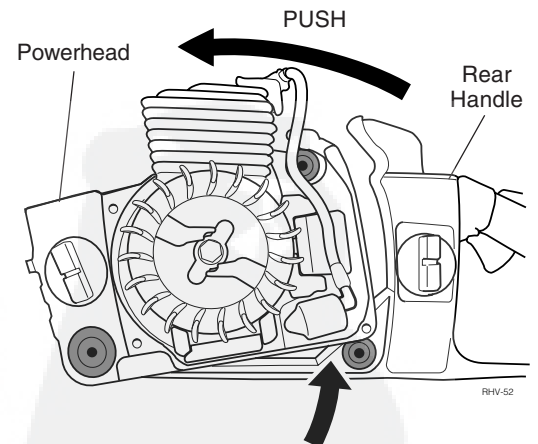
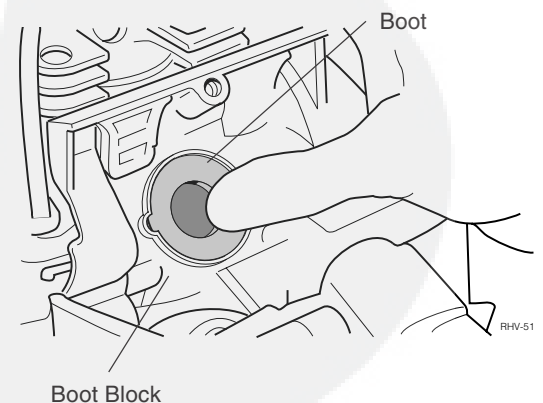

Figure 12.4 Removing the Powerhead
Figure 12.5 Pushing the Boot Through the Airbox Flange
STEP 7. Hold the rear handle firmly with one hand, and use your other hand to gently force the powerhead away from the A-V cushions (Figure 12.4). For saws equipped with a carburetor boot, use your thumb to force the boot through the airbox flange (Figure 12.5).